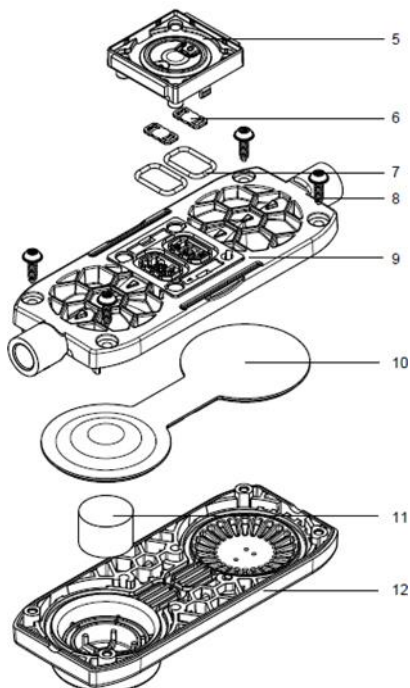

Figure 4
1. Undo the four head screws (1) and remove the complete head (2) from the pump housing (6).
2. Carefully grip the diaphragm (3) and remove by turning counterclockwise.
3. Remove the connecting rod disc (4). Insert ring (5) can remain in the housing (6).
4. Rotate head (2) like shown in Figure 4.
5. Remove the intermediate plate (5) from the connecting plate (9).
6. Remove both valves (6) and both O-rings (7) from the connecting plate (9).
7. Undo the four damper screws (8) and remove them from the connecting plate (9)
8. Remove resonating diaphragm (10) and dampening element (11) form the head plate (12).
4. Place the head plate (12) according to Figure 4.
5. Insert the dampening element (11) into the cylindrical part of the head plate (12).
6. Place the resonating diaphragm (10) on the head plate (12). Make sure that the ridge on the underside is properly placed in the groove of the head plate (12). Additionally, make sure that the protruding part of the resonating diaphragm is placed on the side of the dampening element.
7. Place the connecting plate (9) on the head plate (12). Observe the direction of the arrow ► on both parts for easier assembly. The arrows must point in the same direction.
8. Tighten the four damper screws (8) in a diagonal sequence. Tightening torque 1.2Nm.
9. Place both valves (6) and both O-rings (7) into the connecting plate (9).
10. Snap the intermediate plate (5) into the connection plate (9). Observe the direction of the arrow ► on both parts for easier assembly. The arrows must point in the same direction.
11. Place complete head (2) onto the pump housing (6).
12. Insert the four head screws (1) and tighten the screws in a diagonal sequence. Tightening torque 1.0Nm.